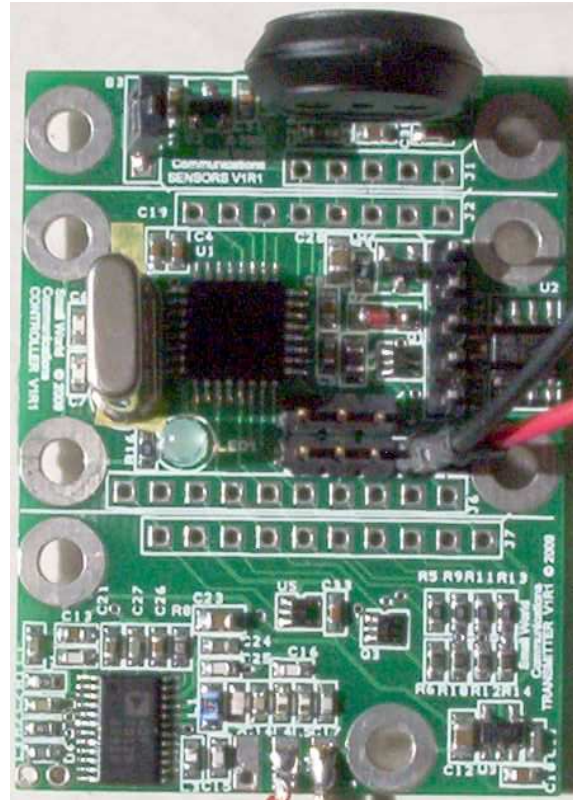

Figure 1: Single board configuration (larger than actual size).
The TINSAT system consists of three separate modules. The Sensor Module (SM) includes a Freescale Semiconductor MPX4115A pressure sensor, Microchip TC1047A temperature sensor and Honeywell HIH-4000 humidity sensor. The Controller Module (CM) includes an Atmel ATmega328P 12.288 MHz microcontroller with serial interface and a light emitting diode (LED). The Transmitter Module (TM) includes an Analog Devices ADF7012 transmitter. The modules are available separately, as one single printed circuit board (PCB), as a SM/CM PCB or as a CM/TM PCB. Figure 1 is a photo of the single PCB configuration.